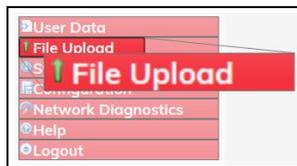

Figure 36: File Upload link
5. On the **Menu** list, click the **File Upload** link. Figure 36